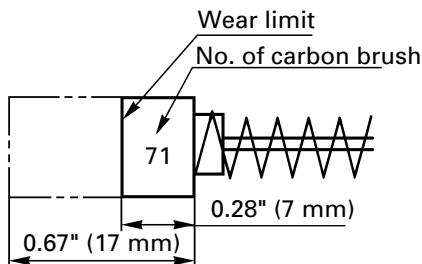

Fig. 4
4. Inspecting the carbon brushes: (Fig. 4)
NOTE: Use HITACHI carbon brush No. 71 indicated in Fig. 4